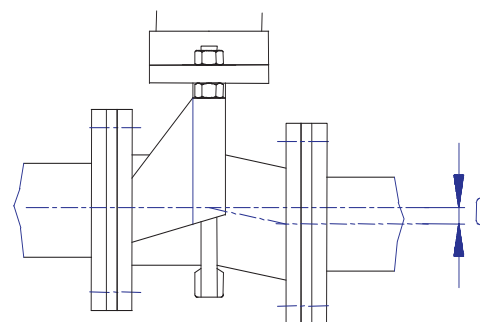

Fig. 6.
Deviation in the center line of the pipe (C), (Fig. 6):